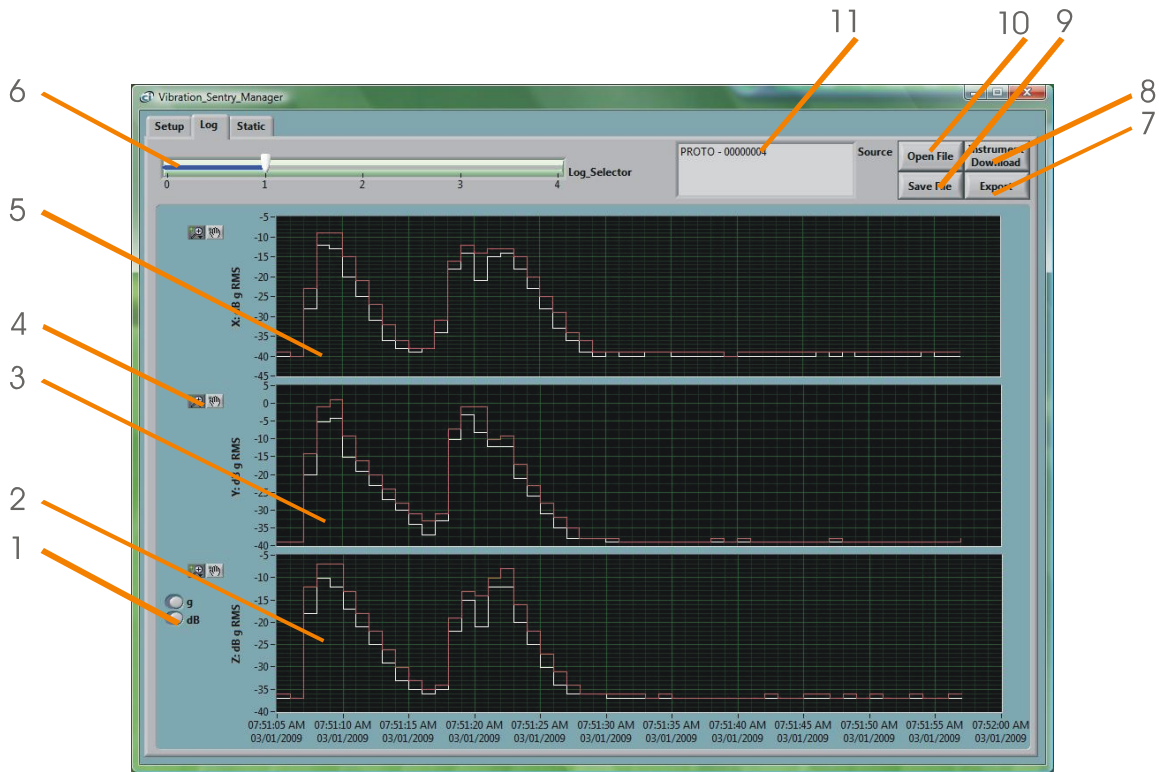

Figure 6: Vibration Sentry Manager Log tab
- **The Log Tab:** Is used to read, display and export the data from the *Vibration Sentry* (see figure 6).
The log tab is seen in figure 6. It is used to retrieve the recorded information from the *THM Sentry* or from a saved file, and to display and export the recorded logs.